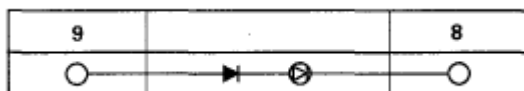

Fig. 5: Checking for continuity between terminals
4. Check for continuity between the terminals (see **Fig. 5**).